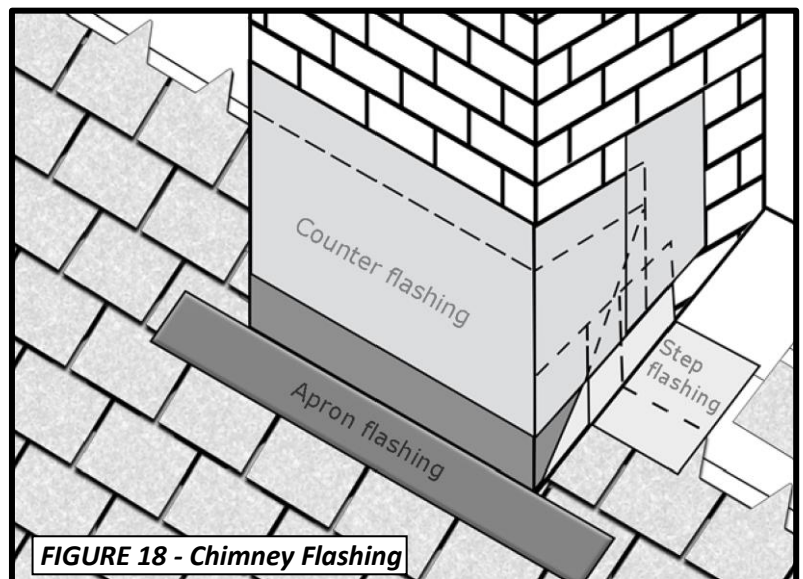

FIGURE 18 - Chimney Flashing
- Install sheet metal cap flashing as counter flashing over flashings such as step flashing and apron flashings. See **Figure 18**.